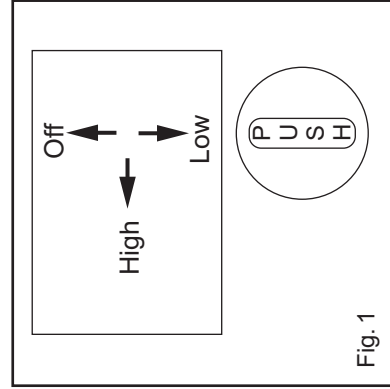

Fig. 1
Fig. 1 shows the burner control knob positions. To turn the knob to the high setting, push the knob in and turn to the high position as marked. It is important to remember to push the knob in and hold it in the pushed in mode whilst turning the knob. To move to a lower setting push the knob in and whilst holding it in, turn the knob in an anti clockwise direction to the required position. To turn the knob to the off or closed position, again push the knob in and whilst holding it in, turn the knob in a clockwise direction to the off position.
- To light the appliance light a match or barbecue lighter, turn on the left side control valve by pushing in and turning the required burner control knob to the high position as indicated in the notes adjacent to Fig. 1 on page 4, and light the appliance burner by holding the lit match or barbecue lighter through the hole on the left hand side of the barbecue.
- After use, first close the valve on gas cylinder. When the flame has extinguished on both burners, close the burner control valves on the appliance by turning the control valve knobs to the off position as indicated in Fig 1.